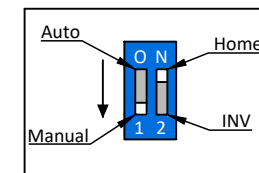

Fig. 4
3. Move the **Auto/Manual** switch to '**MANUAL**' mode. Refer to Fig. 4